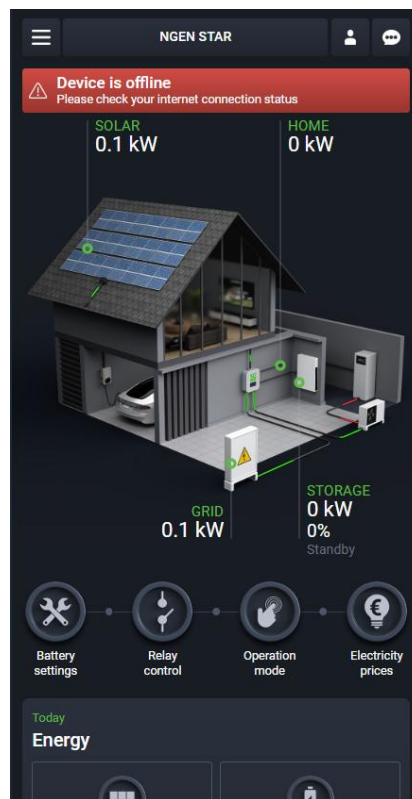

Figure 25: Problems with the communicator
1. If a communication problem occurs, as shown in Figure 25, please follow the steps below to solve the problem: Switch off the device (Internet router) responsible for the Internet connection and switch it on again after 10 seconds. Wait until your Internet connection is restored and then continue with the procedure. If your Internet is not working, please contact your Internet provider.